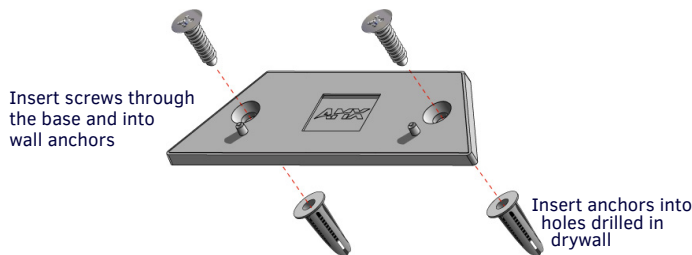

FIG. 3 MAGNETIC MOUNT ADAPTER SHEET ROCK INSTALLATION
4. Holding the base back up to the wall, insert the #8 screws through the holes in the base and into the wall anchors. Refer to FIG. 3